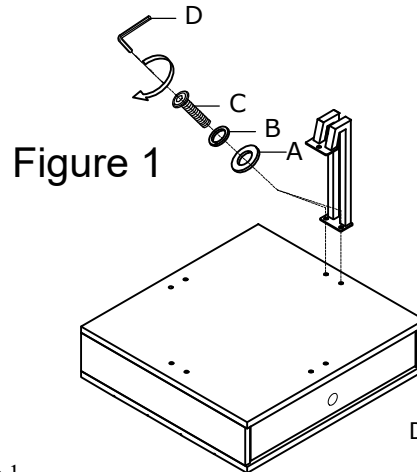

Figure 1
1. Turn the top upside down on a clean soft surface. As Shown in Figure 1.
2. Attach the three legs to the top panel using Flat Washer (A), Lock Washer (B) and Bolt (C), tighten with the Allen Wrench (D). As Shown in Figure 1.